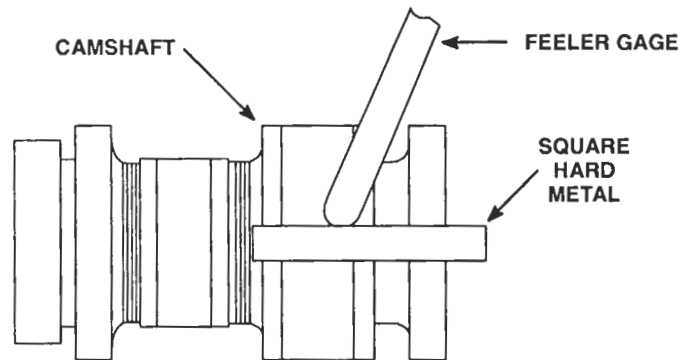

Figure 7. Checking Cam Lobe Wear
1. With a tapered leaf set of feeler gages (.0015–.0100) and a piece of square hard material 1/8 x 3/8 x 1 inch measure the flat on the injector rise side of the cam lobes (Figure 7.)